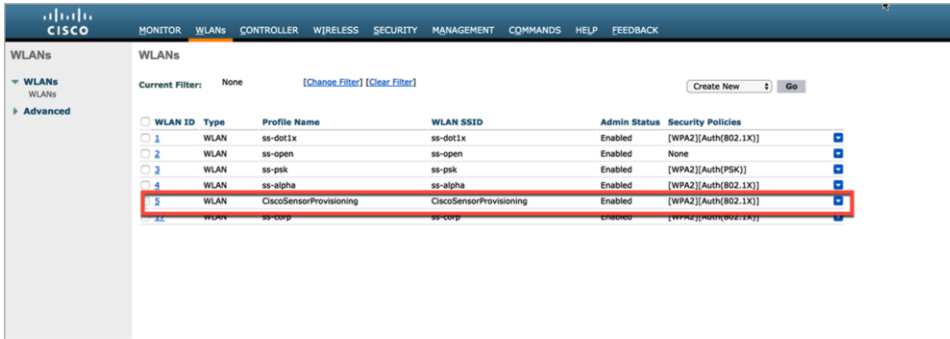

Figure 13.
- a. Enable the local EAP server with EAP-TLS to authenticate the sensor's embedded certificate (Figure 13).